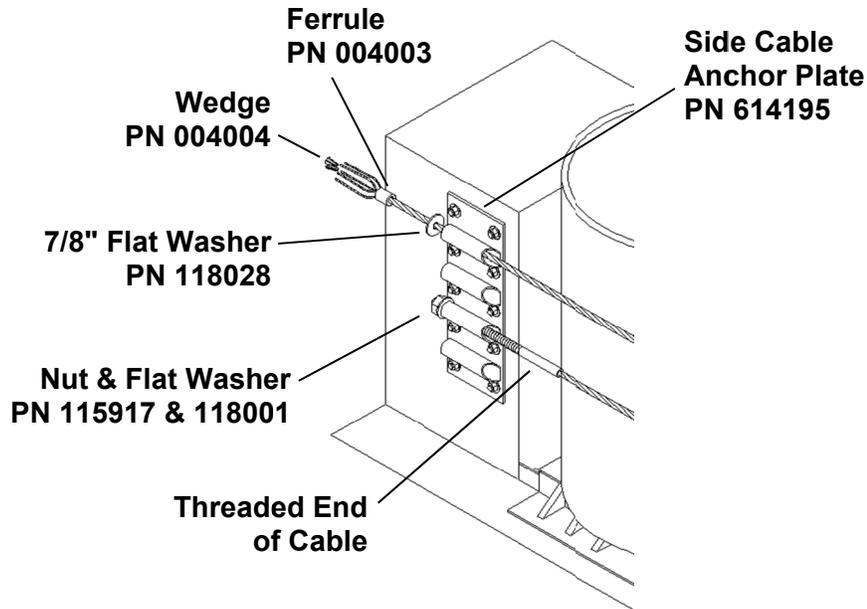

Figure 20 - Routing First Cable
- A. Slide the threaded end of a Restraining Cable through the third guide down and attach flat washer and nut as shown in Figure 20. Tighten the nut so it is flush with the end of the threaded end of cable.
Use the nuts on the threaded end of the cables to tension the cables (see Figure 20).